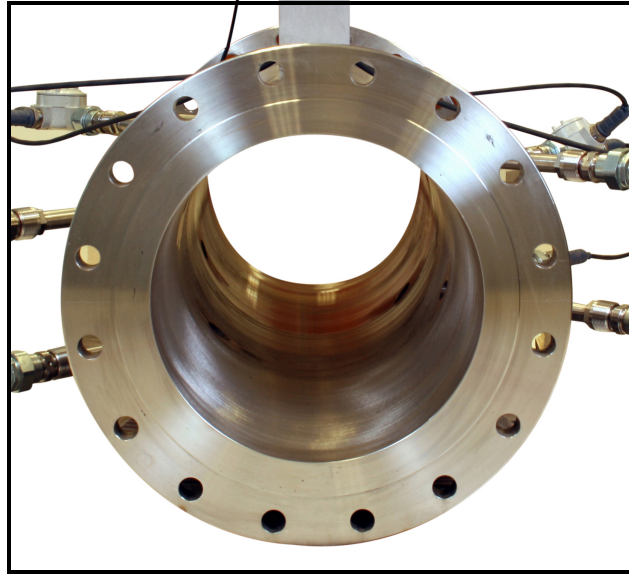

Figure 8: Sentinel End View - Mounting Flange
3. Align the flange mounting holes (see Figure 8 below).